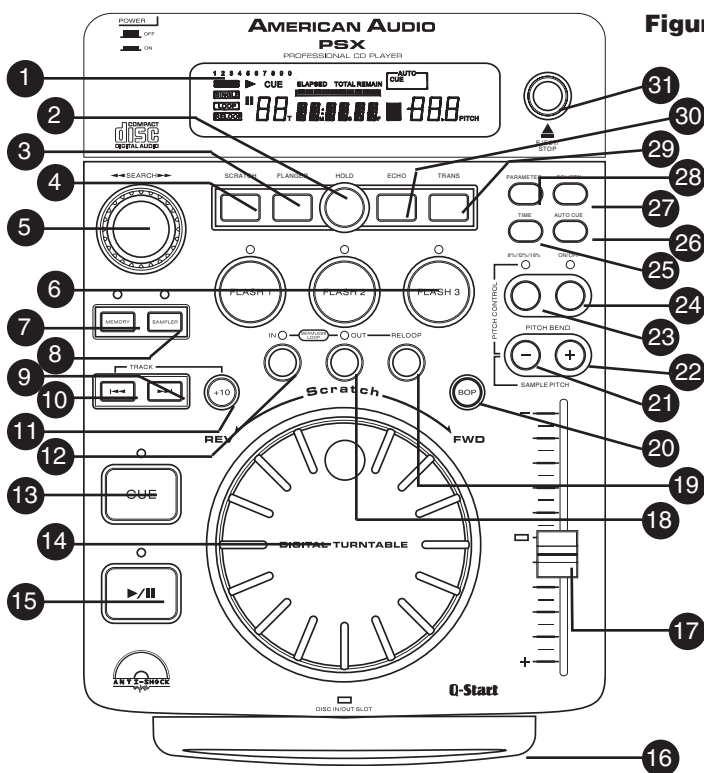

Figure 3
A. TOP UNIT CONTROLS (FIGURE 3)
6. FLASH BUTTONS 1-3 - These buttons are used to store either three (3) cue points or three (3) samples. Each Flash Button can store either a sample or a cue point.
7. MEMORY BUTTON - This button allows you to program up to 3 cue points or three samples in to the three *FLASH BUTTONS* (6). The samples